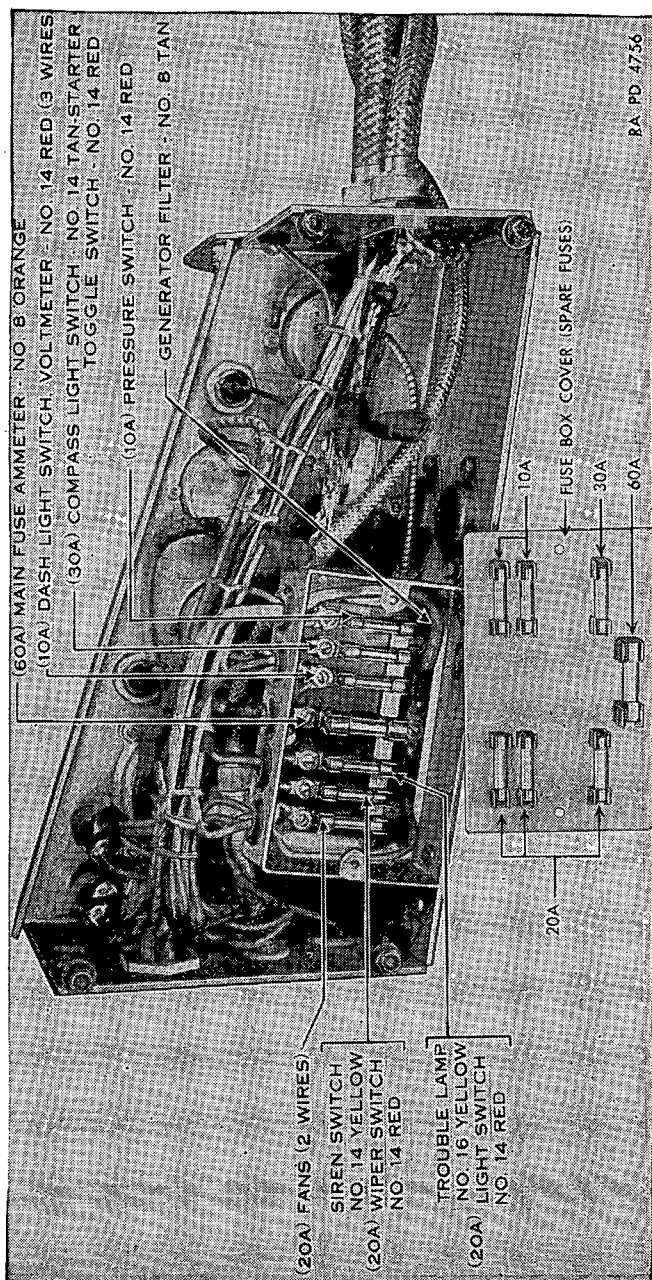

FIGURE 96.—Fuse box.
120. Fuse box and panel.—*a. Description* (fig. 96).—A fuse panel mounting 7 fuses is enclosed in the fuse box, located behind the side instrument panel. The fuse panel is marked directly behind each fuse with the amperage of the fuse required for each circuit. A duplicate set of fuses is clipped to the cover of the fuse box for replacement purposes. Clip these fuses in place as shown on figure 96.
b. *Replacement* (fig. 96).—(1) *Fuse box*.—(a) Open battery switch.
(2) *Replacement.*—If the ammeter is defective, use the following procedure for replacement (refer to fig. 96 and wiring diagram, fig. 98):
(2) *Replacement* (refer to fig. 96 and wiring diagram, fig. 98).—